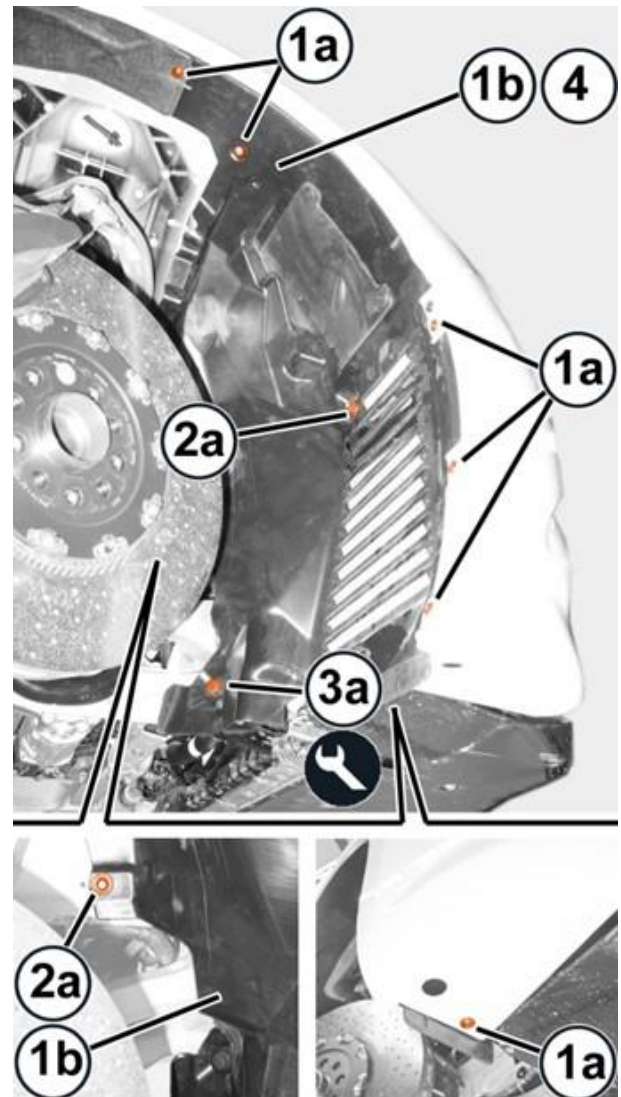

Figure 1 – Wheelhouse Splash Shield
3. Front half right side front wheelhouse splash shield (1b) removal (Figure 1).
- a) Remove the screws (1a) (Figure 1).
- b) Remove the nuts (2a) (Figure 1).
- c) Remove the push pin fastener (3a) after releasing its central pin using a trim stick or equivalent (Figure 1).
- d) Remove the front half wheelhouse splash shield (1b), releasing it from its housing (Figure 1).
Refer to the detailed service procedures available in DealerCONNECT / Service Library under: Service Info> 23 - Body / Exterior / SHIELD, Splash, Front Wheelhouse / Removal and Installation (Figure 1).